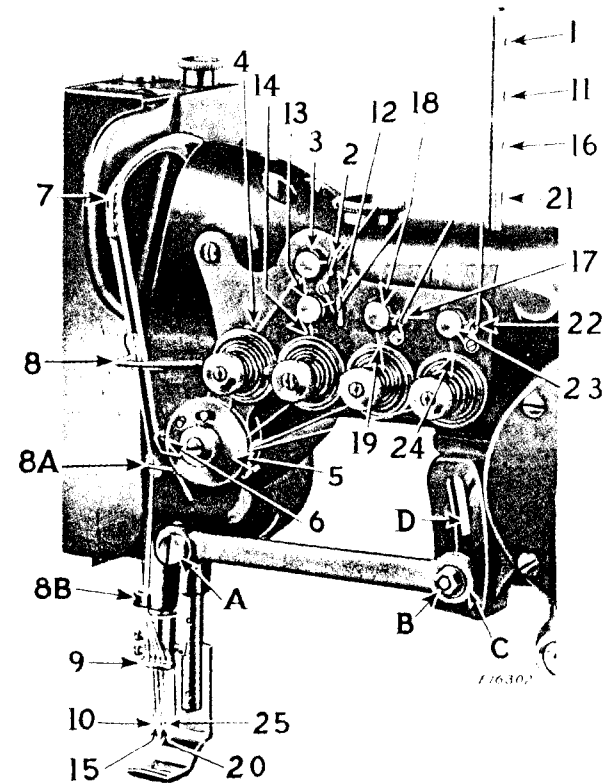

Fig. 13. Upper Threading of the Machine
(See Fig. 13)
The width of zigzag movement of the needles is regulated by loosening the nut (B, Fig. 13) and raising or lowering the end of the needle bar frame pitman (C, Fig. 13) in the elongated slot of the segment lever (D, Fig. 13) as required. The maximum overall width of the stitching is $5/16$ inch.
To centralize the needles in the needle slot of the throat plate, loosen the nut (B, Fig. 13) and move stud to the lowest position in the slot of segment lever (D, Fig. 13) and tighten it there. Loosen the set screw at the rear side of stud (A, Fig. 13) and turn the eccentric stud (A) until the needles are central, then tighten set screw.